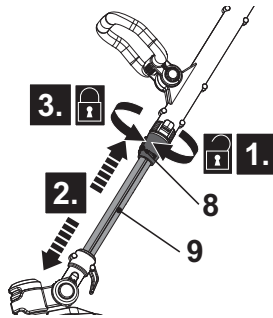

Fig. 8
1. Loosen the locking sleeve (8) in clockwise (Fig. 8, step 1).
3. Tighten the locking sleeve (8) in anticlockwise (Fig. 8, step 3).